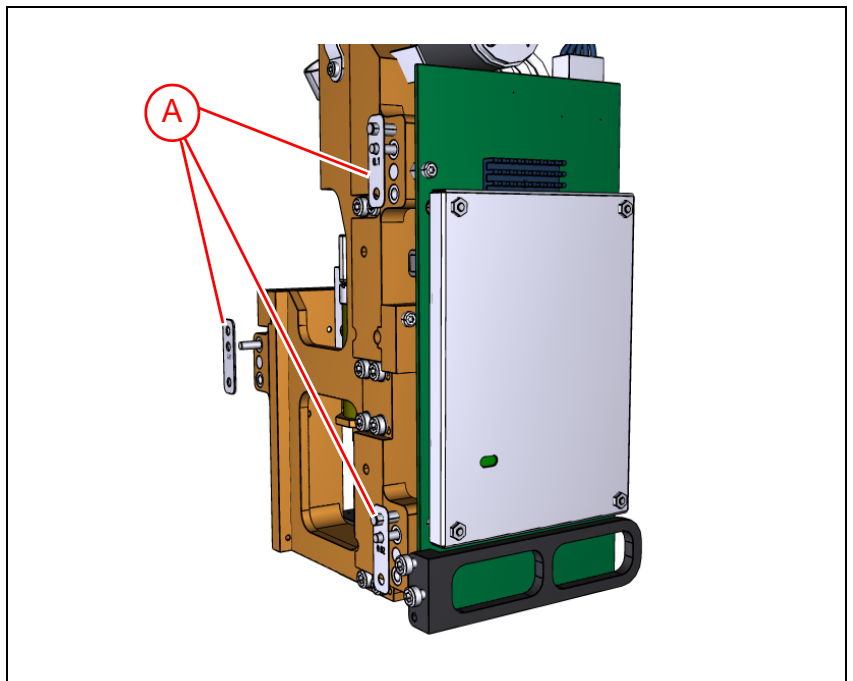

Figure 6-20. Put shims on attachment screws.
5. On the back of the HYDRA unit, put shims ('A' in Figure 6-20) with thickness 1.2 on the three attachment screws on the HYDRA frame. The shims thickness 1.2 is used as a starting point and may have to be modified during the installation procedure.
18. The goal of this procedure is to align all HYDRA tools with the Midas A14 tool by putting adequate amount of shims between the HYDRA and the X wagon (See Figure 6-20). A different amount of shims may be required on the right and left side of the HYDRA, but normally not more than 0.2.